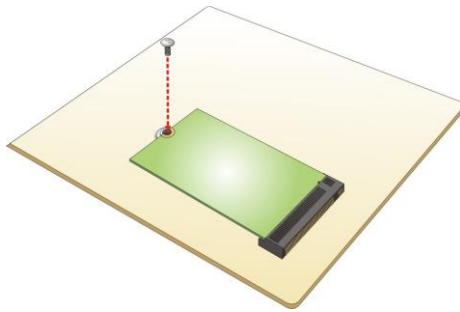

Figure 3-6: Securing the M.2 Module
Step 4: Secure the M.2 module with the previously removed retention screw (**Figure 3-6**).